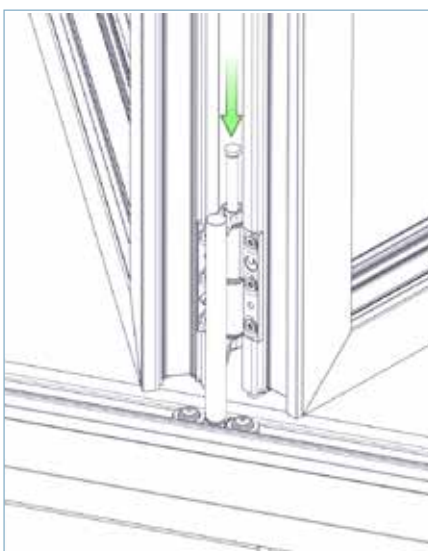

FIG 7E
- ▶ **7.7.** Remove the screw and insert the trolley pin into the bottom trolley and hinge using a plastic hammer to gently tap the pin in fully, being careful to align the hinge and trolley as the pin goes through as shown in FIG 7E.